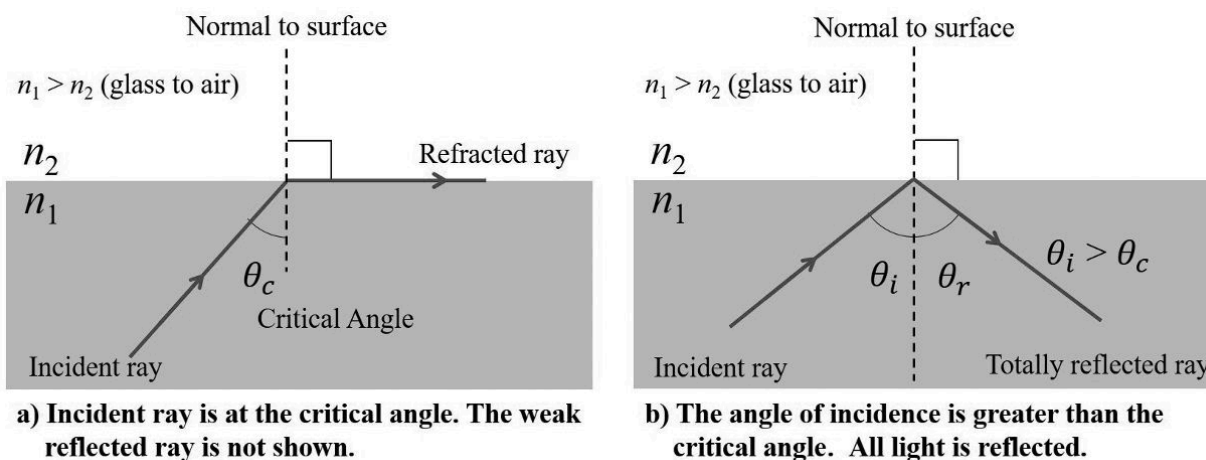

Figure 4: The *critical angle* θ_c and *total internal reflection (TIR)*.
When light travels from a material with a *higher refractive index* to a material with a *lower refractive index* the **light is refracted away from the normal**, such as when moving from *glass to air* as in Figure 3(b). In such circumstances, if the *angle of incidence* θ_1 is **increased** it will eventually reach a value known as the **critical angle** θ_c where the *resulting angle of refraction* θ_2 is equal to 90° , as illustrated in Figure 4(a). *Angles of incidence* greater than the **critical angle** θ_c result in **total internal reflection (TIR)**, where all of the incident light is *reflected back into the incident material*; an example of this is shown in Figure 4(b).
6. [1 mark] **What is it called when $\theta_i > \theta_c$? What happens in this case?** (see Figure 4)